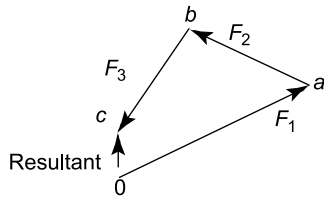

Figure 5.13
- Draw $0a$ to scale to represent force F_1 in both magnitude and direction (see Figure 5.13)
- (iv) The resultant vector is given by length $0c$ in Figure 5.13. The direction of resultant $0c$ is from where we started, i.e. point 0, to where we finished, i.e. point c . When acting by itself, the resultant force, given by $0c$, has the same effect on the point as forces F_1 , F_2 and F_3 have when acting together. The resulting vector diagram of Figure 5.13 is called the **polygon of forces**.